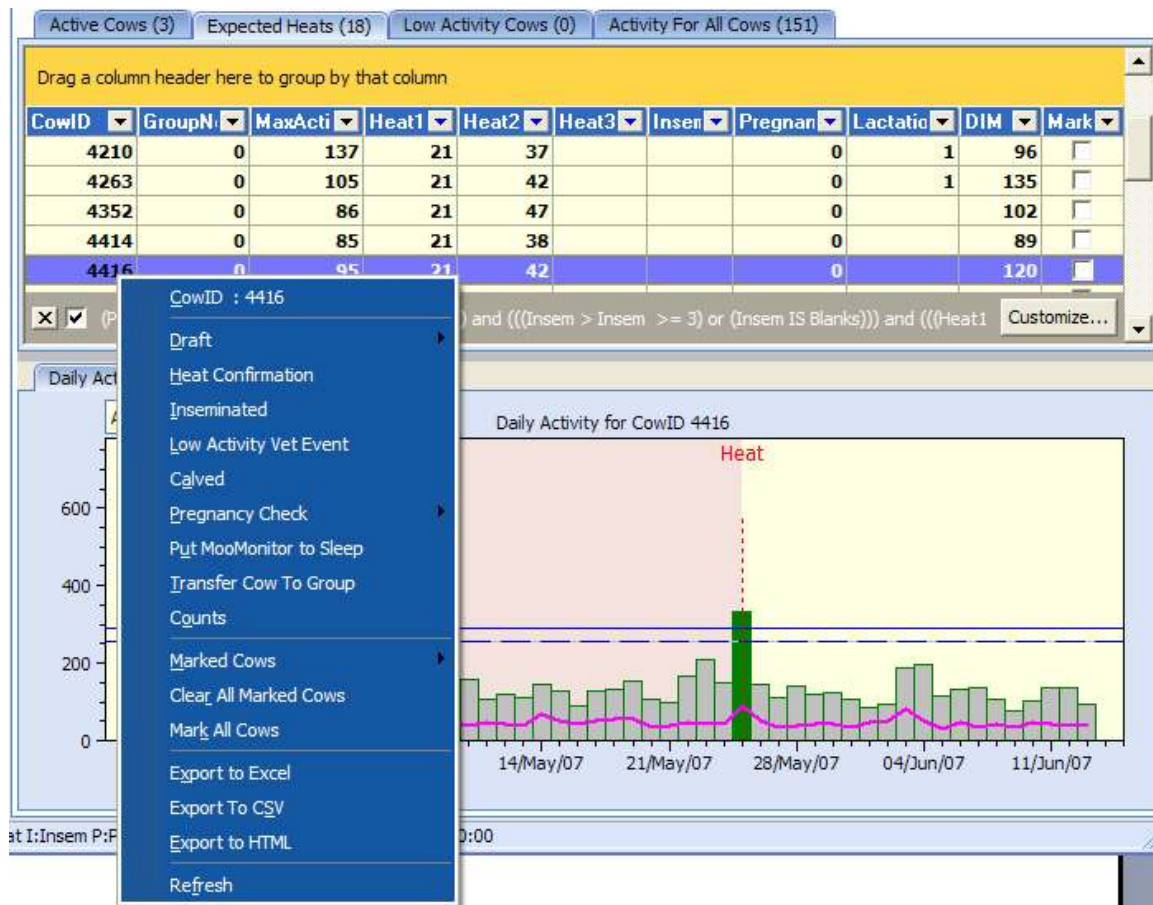

Figure 19 Right Click options.
- The options shown in Figure 19 on the next page will appear.
- h. Repeat steps a – f for the 'Inseminated', 'Low Activity Vet Events' and 'Calved' options in Figure 19 on the previous page.
- i. To enter a 'Pregnancy Check' event, go to the 'Pregnancy Check' option displayed in Figure 19 on the previous page and select either 'Pregnant' or 'Not Pregnant' in order for the screen in Figure 20 to appear.